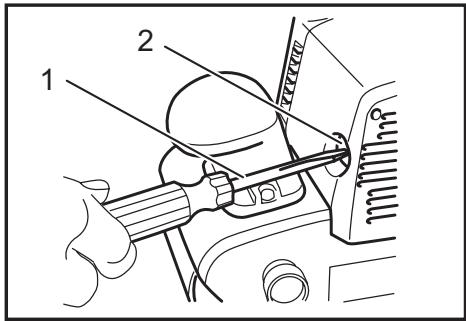

Fig.9
► Fig.9: 1. Screwdriver 2. Brush holder cap